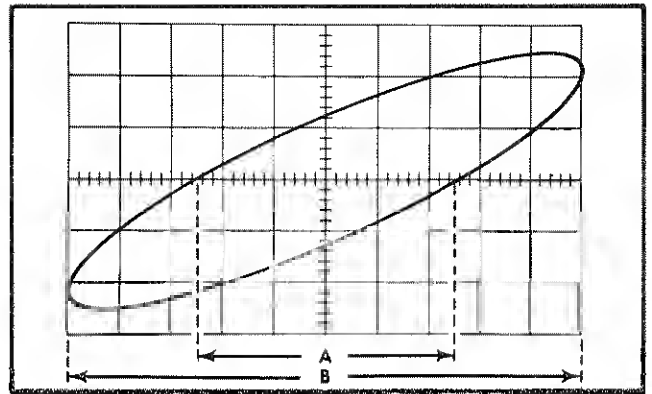

Fig. 2-26. Phase-difference measurement from an X-Y display.
3. Position the display to the center of the screen and adjust the VOLTS/DIV switches to produce a display less than 6 divisions vertically (Y) and less than 10 divisions horizontally (X). The CH 1 VOLTS/DIV switch controls the horizontal deflection (X) and the CH 2 VOLTS/DIV switch controls the vertical deflection (Y).
4. Center the display in relation to the vertical graticule line. Measure the distances A and B as shown in Fig. 2-26. Distance A is the horizontal measurement between the two points where the trace crosses the center horizontal line. Distance B is the maximum horizontal width of the display.
Example. Assume an inherent phase difference of 2° with a display as shown in Fig. 2-26 where A is 5 divisions and B is 10 divisions.